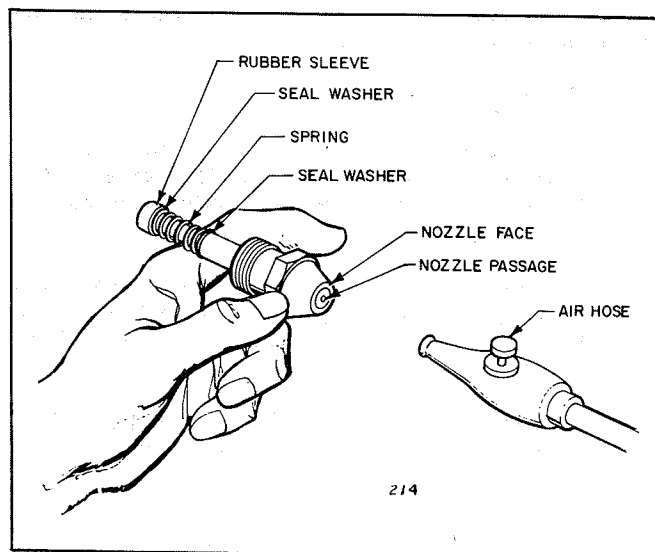

Figure 5. Blowing Out Nozzle
4. Replace with a new nozzle if there is any sign of damage. Blow a new nozzle out thoroughly with air, from outlet to inlet end, before installing it into the burner. (See Figure 5.) Protect the nozzle face from scratches!